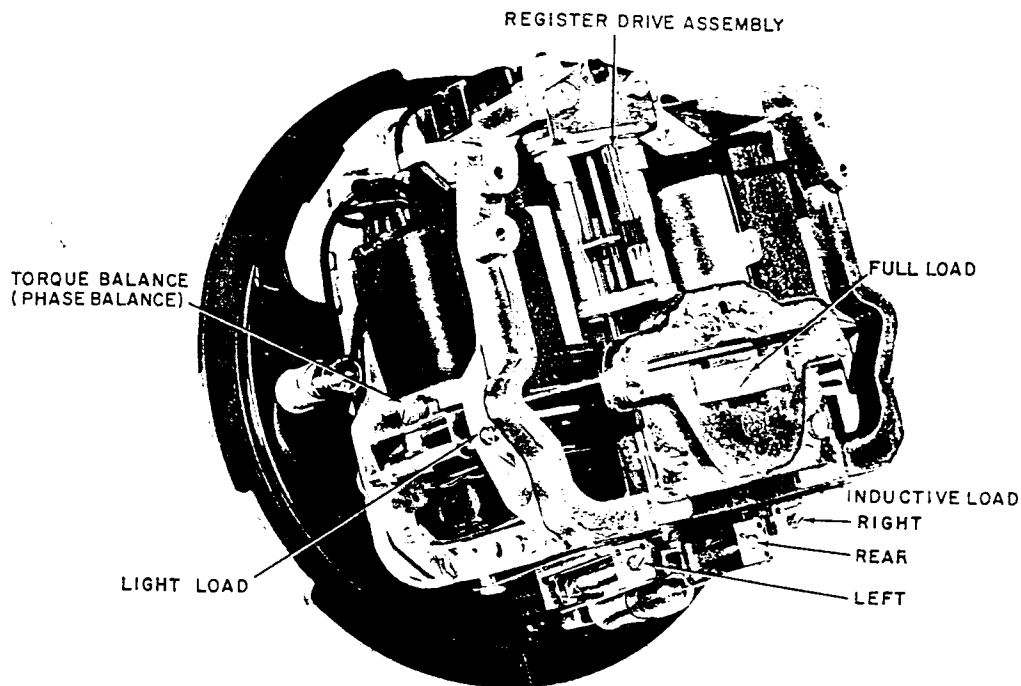

Fig. 2. Location of adjustments on Type V-64-S 3-stator meters
For Type V-64 meters, inductive-load (power-factor) adjustment is made by turning three micrometer resistance adjusting screws located at the bottom of the meter (see Fig. 2). The sensitivity is roughly 0.3 percent per turn on the average, depending somewhat on the position of the adjustment. The adjustment is not linear.
For Type V-64 meters, torque-balance (phase-balance) adjustment is made by turning a single flux-shunting screw in both the left and right stators. See Fig. 2. The sensitivity is about one percent per turn. On the rear stator the torque is factory-adjusted.
The register drive assembly (see Fig. 2) consists of two vertical shafts, one of which carries an idler gear which meshes with the 20-tooth pinion on the rotor shaft, and also meshes with and drives a similar 20-tooth pinion on the second, or driven, shaft. This driven shaft thus rotates at the same speed and in the same direction as the rotor shaft, and serves to drive all the registers used with this meter. For pointer-type registers and Types M-30, M-31, M-50 and M-51 demand registers, a double-pitch worm is cut into the driven shaft. The 20-tooth pinion on the driven shaft is also used to drive the Type M-60 demand register, when used. The driven shaft in the register drive is furnished with a hobbled 8-tooth pinion for use in driving a pulse initiator.
1. Remove the register, nameplate, and retarding magnet. On Type V-64 meters, also remove the register drive assembly (see Fig. 2).